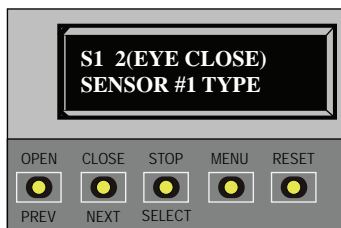

Figure 2. S1 to 2(EYE CLOSE) Sensor Type
2. Set S1 to 2(EYE CLOSE) [or 4(EYE OPEN), if protecting open direction] and press SELECT. See Figure 2.